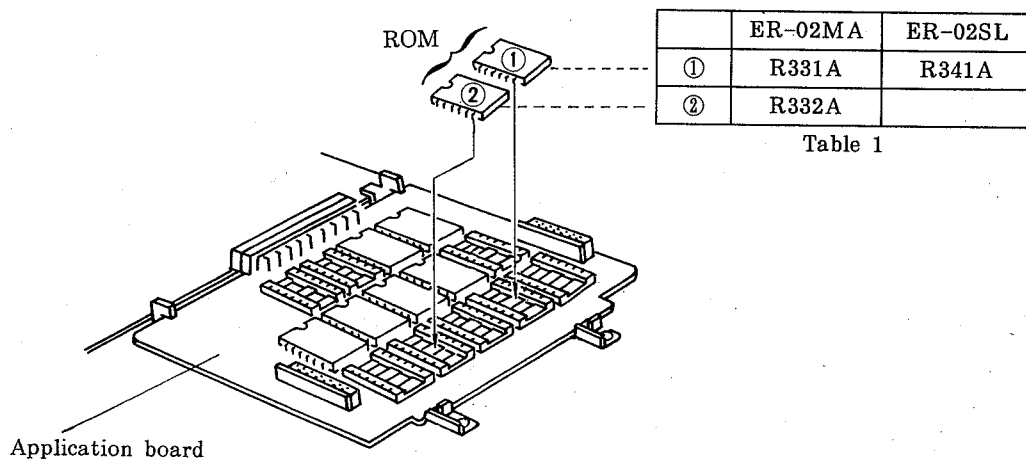

Fig. 26
- (3) Connect the ER-67MB3/MB4/MB5 to the lower side of the application board. (See pages 3 to 7.)
- (4) Mount the ROM's of the ER-02MA/SL to the application board as shown in Fig.26 and Table 1.